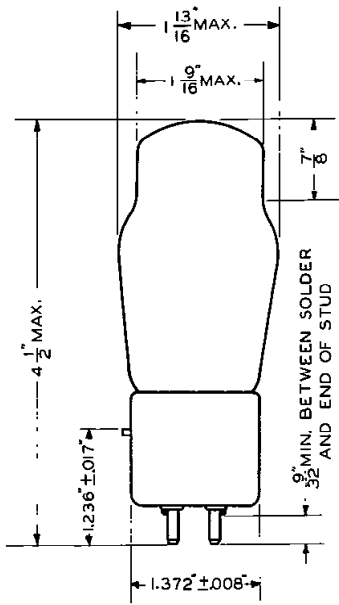

FIG. 1
**Dimensions and Connections—**Figures 1 and 2 show the outline diagrams of the tube and base, giving the dimensions and the arrangement of the electrode connections to the base terminals.
**Dimensions and Connections—**The outline diagrams of the tube and base, giving the dimensions and the arrangement of the electrode connections to the base terminals are shown in Figures 1 and 2.